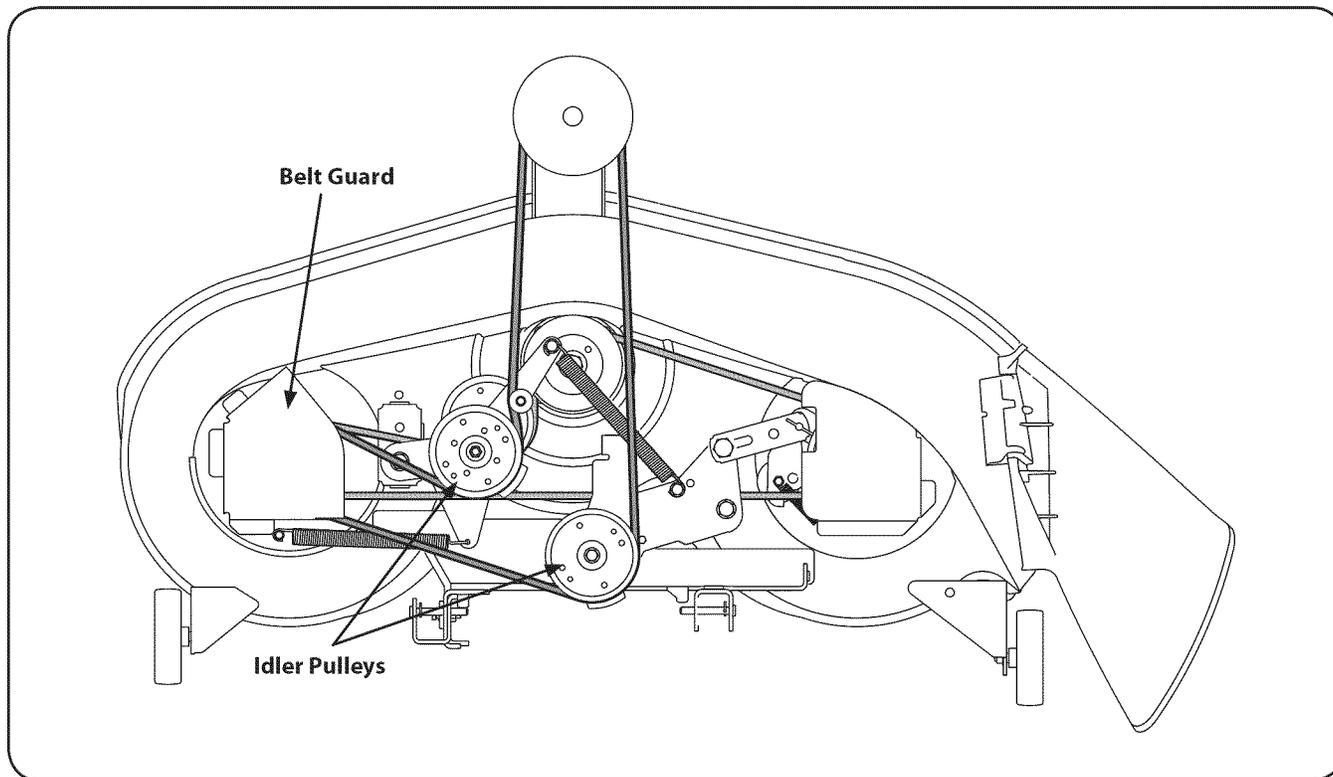

Figure 7-7
5. Remove the belt guards by removing the self-tapping screws that fasten them to the deck. See Fig. 7-7.
6. Carefully loosen, but do not remove, the deck idler pulleys. See Fig. 7-7.
8. Route the new belt as shown in Fig. 7-7 and retighten the deck idler pulleys.